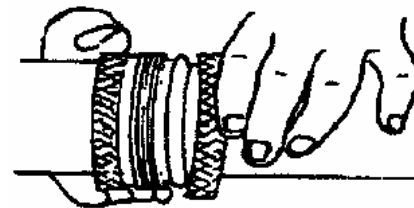

Figure 15. Engaging Body and Nut
e. Slide coupling body into position and engage threads (Figure 15).